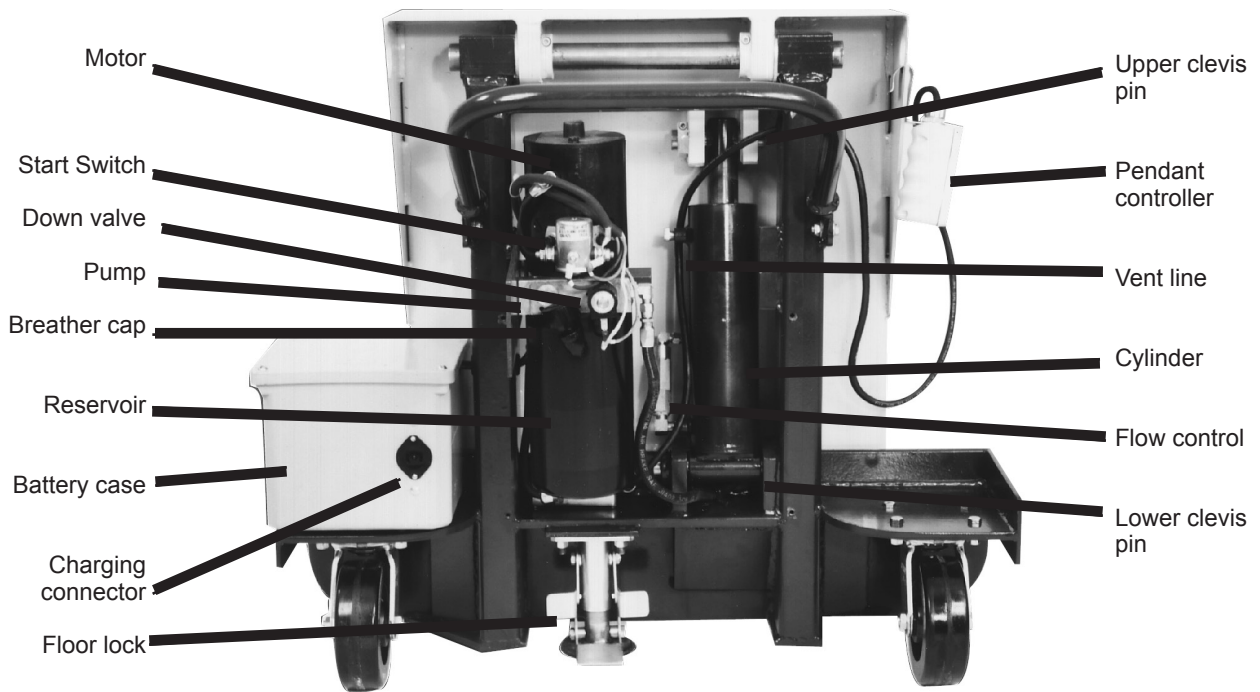

Fig. 11 Parts Identification, Cover Removed
- Check the hydraulic oil level. In order to check the level, lower the tilt platform completely and unplug the power cord. Remove the rear cover on the unit. Open the filler cap on the side of the power unit. See Fig. 11. The fluid should reach the elbow in the filler pipe. Do not fill to the top of the filler pipe - there should always be an air space at the top of the tank.